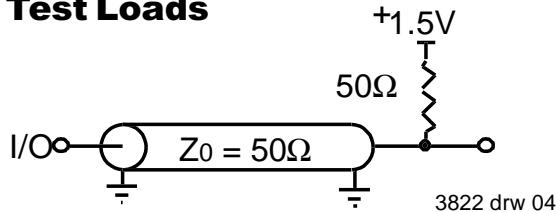

Figure 1. AC Test Load
| AC Test Load                   | See Figure 1 |
3. These parameters are guaranteed with the AC load (Figure 1) by device characterization. They are not production tested.